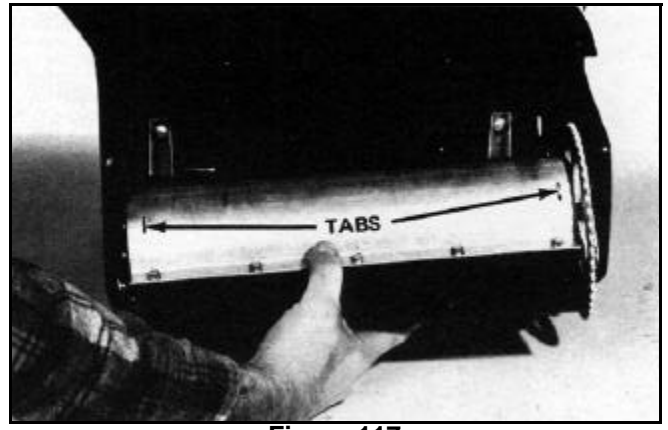

Figure 117
4. Next, remove all four bolts, two on the left side of the impeller housing and two in the right side of the impeller housing (Figure 116). Remove the entire rotor assembly and stripper from the snowthrower housing (Figure 115 and Figure 117).
8. When replacing with the new impeller sprocket/end cap assembly, be certain to align the small tabs on the end plate with the slots in the rotor shells (Figure 117). The same procedure is also used on the right hand end cap.
4. Remove the entire impeller assembly from the snowthrower (Figure 117).
6. Remove the entire rotor shell assembly from the snowthrower (Figure 117).